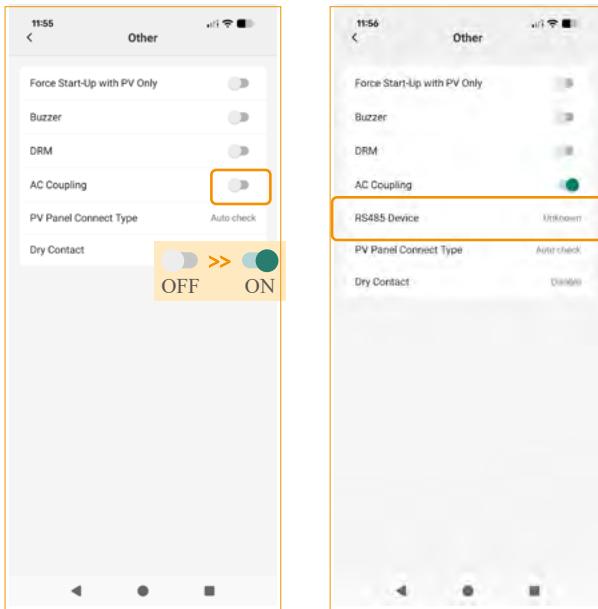

Figure 20. Left - (a) - Enable. Right - (b) Set meter 2.
Step 2. Tap Setting > Inverter > Other to enable AC coupling function and set meter 2. See Figure 20, (a)-(b).